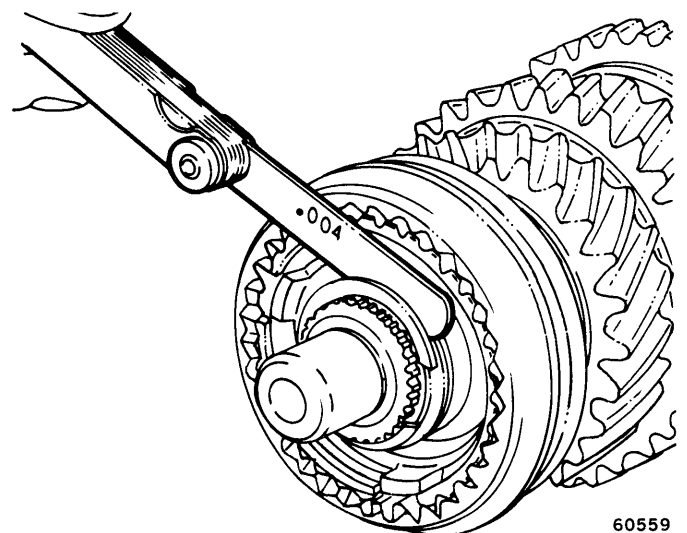

Fig. 6-14 Measuring Main Shaft End Play
(19) Install second-third synchronizer assembly on main shaft. Rotate second gear until notches in blocking ring engage inserts in second-third synchronizer assembly.
(20) Install retaining snap ring on main shaft and measure end play between snap ring and second-third synchronizer hub with feeler gauge (fig. 6-14). End play should be 0.004 to 0.014 inch. If end play exceeds 0.014 inch, replace thrust washer and all snap rings on output shaft assembly. Install spacer on rear of main shaft.